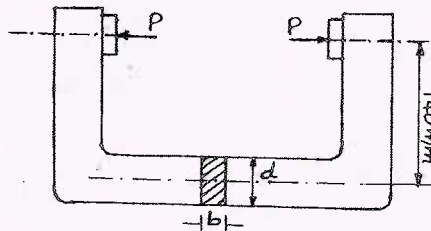

Fig.Q1(c)
c. A C-clamp shown in Fig.Q1(c) carries a load of 25 kN. The cross-section of the clamp is rectangular and the ratio of depth to width ( $d/b$ ) is 2:1. The clamp is made of cast steel of grade 20-40 ( $\sigma_y = 400 \text{ N/mm}^2$ ) and the factor of safety is 4. Determine the dimension of the cross section of the clamp.